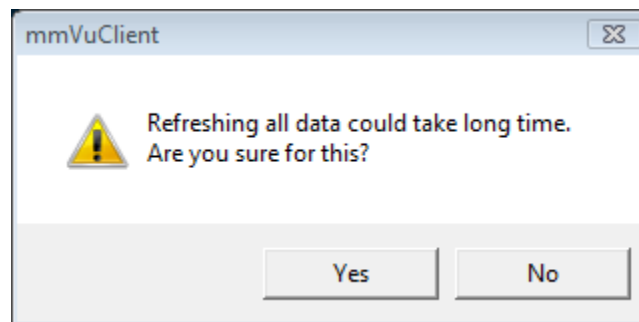

Figure 16: Plot Refresh warning message
- **Refresh:** Click this button to refresh the entire plots. A warning message will be displayed (Figure 16).